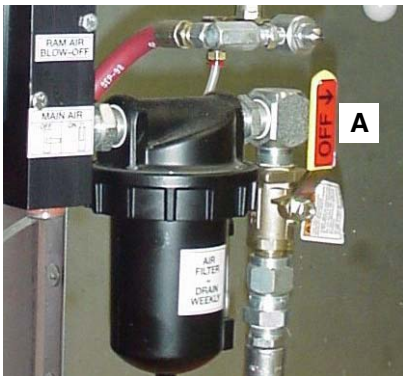

FIG. 22
2. Close the main air shutoff valve (A), FIG. 22.